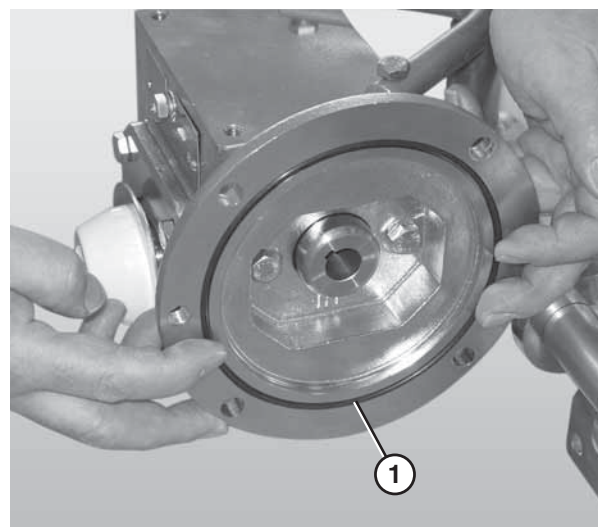

Figure 40
Ensure the O-ring (Figure 40, item 1) and motor output shaft key (Figure 40, item 1) are situated properly before attaching the motor to the gear reducer.